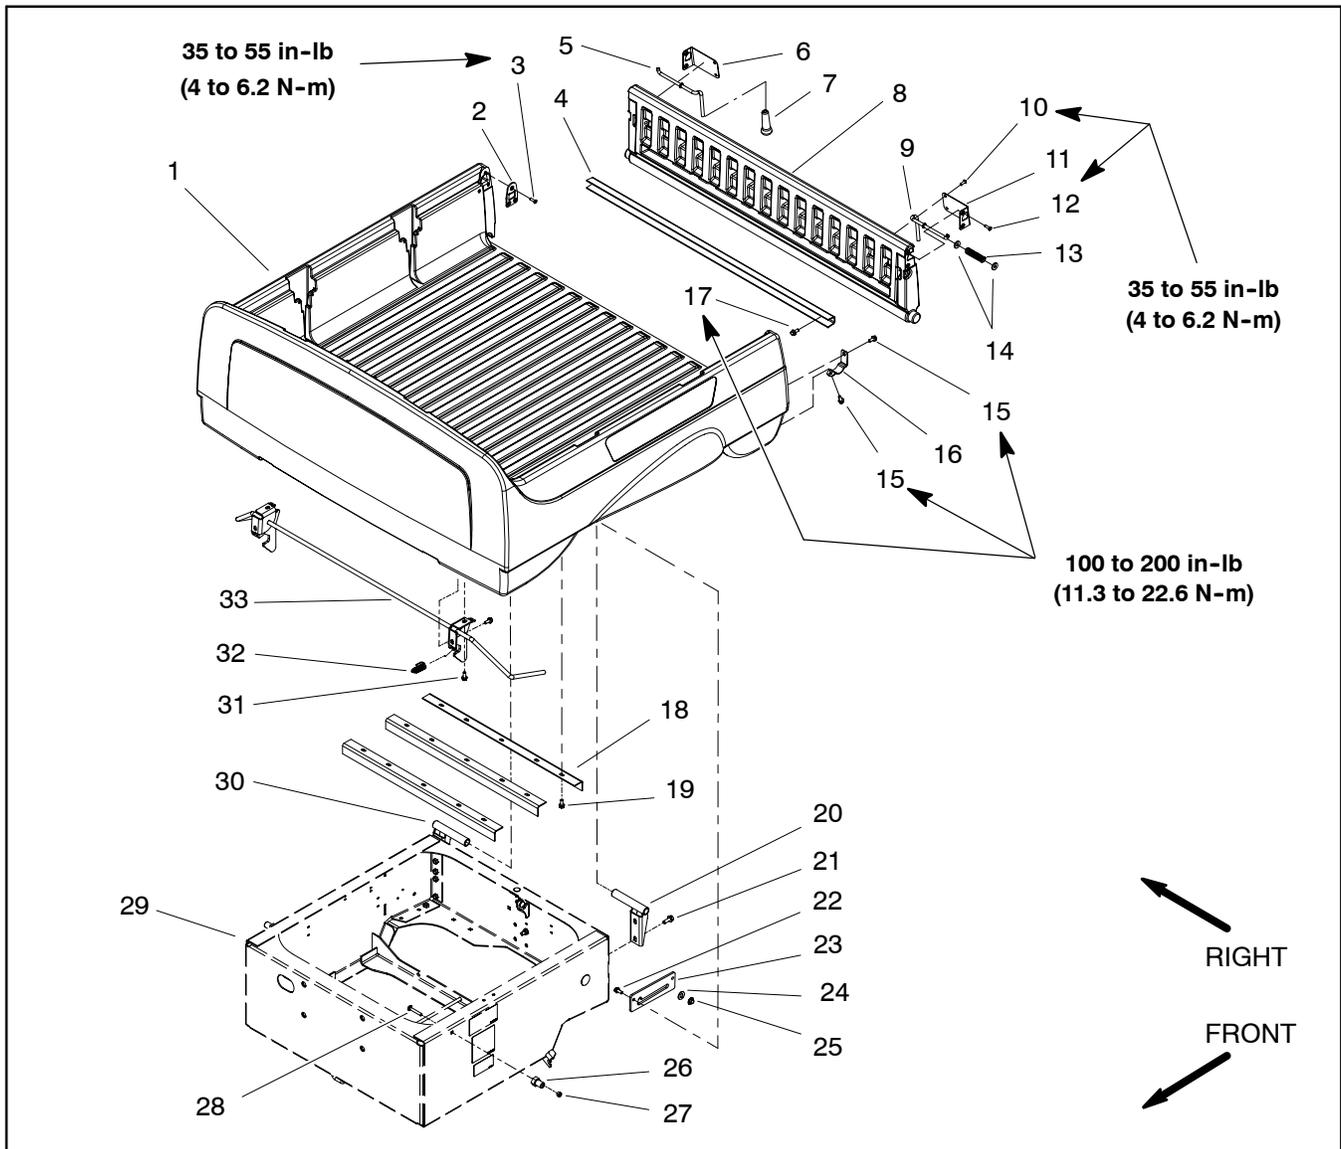

Figure 18
### **Removal (Fig. 18)**
2. Remove two (2) flange head screws (item 21) that secure RH and LH pivot brackets (items 20 and 30) to the rear frame.
3. Release latch rod (item 33) from the latch pins (item 26). Remove cargo box from the frame. Disassemble cargo box as necessary using Figure 18 as a guide.
### **Installation (Fig. 18)**
1. Assemble cargo box using Figure 18 as a guide.
2. Position cargo box to the frame locking the latch rod (item 33) to the latch pins (item 26).
3. Secure both pivot brackets (items 20 and 30) to the rear frame with flange head screws (item 21).